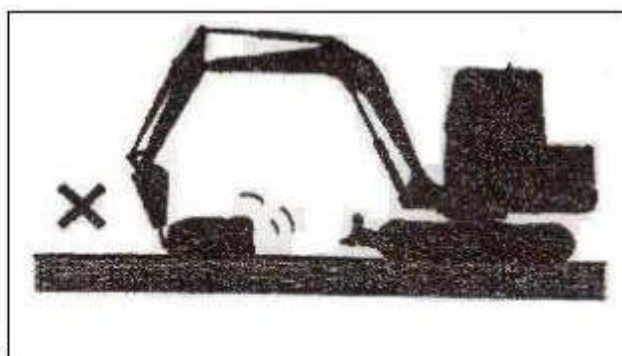

Fig 3-63
10. Do not use the crusher or bucket to move the crushed object, especially avoid using the rotation force to move it, otherwise the boom, arm, rotation mechanism and crusher will be damaged. See Figure 3-63.